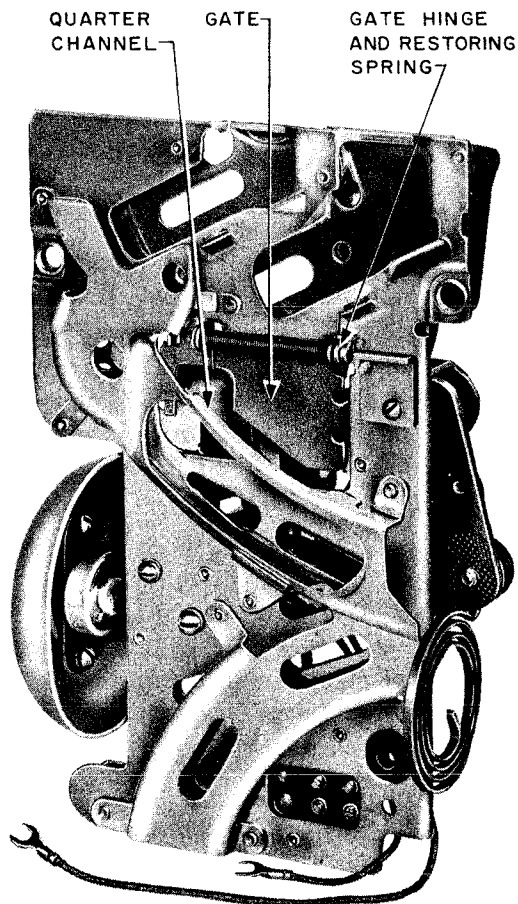

Fig. 4 — P-20A125 Coin-chute Assembly, Rear View
3.10 A hinged gate is provided in the rear wall of the nickel channel opposite the holding and locking latches (see Fig. 4). Pennies which may reach the holding latch will be ejected through an opening in the gate. A single nickel deposited and held by the holding latch will be released by the gate and fall into the return chute when the handset or receiver is hung up. The gate is controlled by an operating arm on the switchhook. The gate is open when switchhook is down and closed when switchhook is up. Nickels deposited when switchhook is down will pass through the open gate and into return chute. The gate is also opened by the coin-release push-button mechanism.